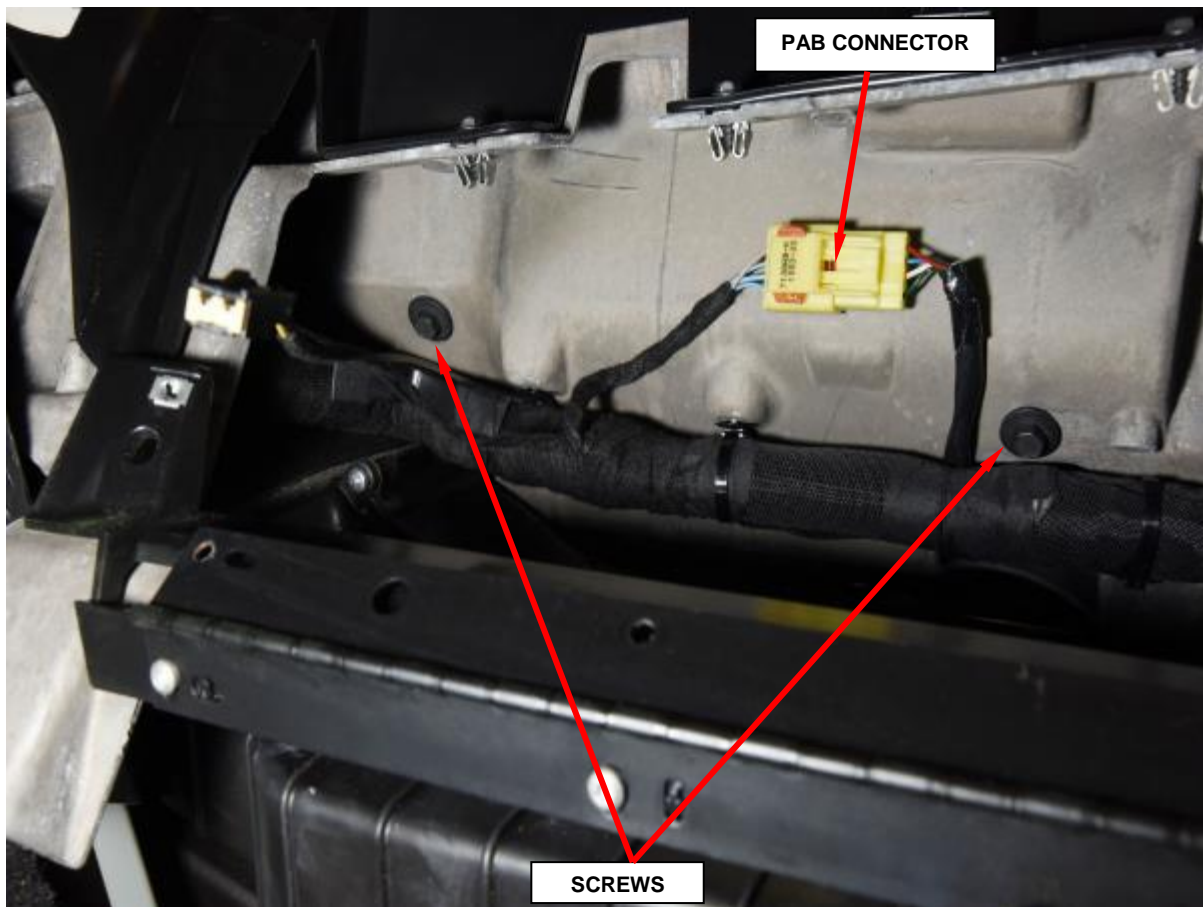

Figure 7 – PAB Bracket to Instrument Panel Support Structure
8. Disconnect the instrument panel wire harness connector from the PAB pigtail wire harness connector located above the glove box area of the instrument panel (Figure 7).
9. Remove the two screws that secure the lower PAB bracket to the instrument panel structural support above the glove box area of the instrument panel (Figure 7).
- 21. Install and tighten the two screws that secure the PAB lower mounting bracket to the instrument panel structural support above the glove box area of the instrument panel. Tighten the screws to 80 in. lbs. (9 N·m) (Figure 7).